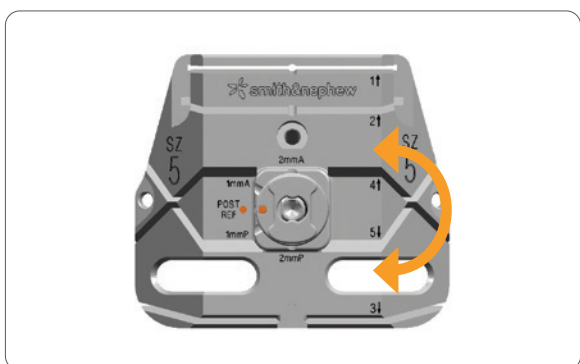

Figure 29
2. Use the Resection Check to check the location of the anterior cutting slot. Make any necessary anterior/posterior adjustments to avoid over stuffing the patella femoral joint, over stuffing the flexion space or femoral notching (**Figure 29**).